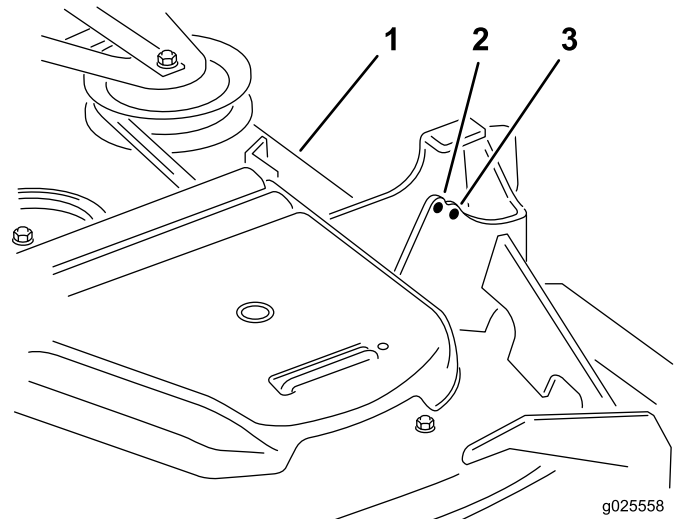

**Figure 92**
- If needed, loosen the whizlock nut on the side of the yoke and the jam nut on top. Fine tune the screw adjuster by turning it to get 76 mm (3 inches) height (see Figure 92).
15. Fine tune the screw adjuster by turning it to get 8.3 mm (3-1/4 inches) height (Figure 92).